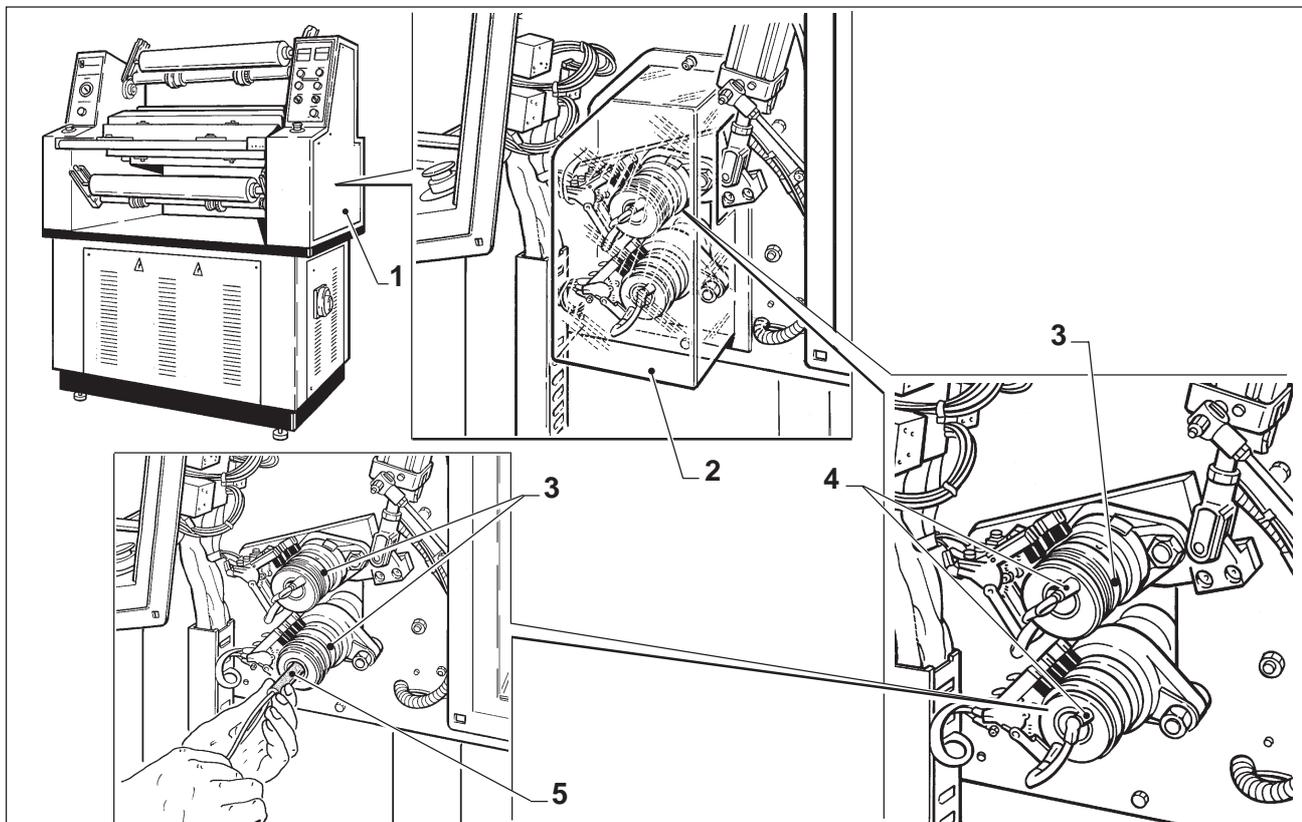

Fig. 13 - REPLACEMENT OF LAMINATION ROLLS HEATER
6.2 - REPLACEMENT OF ROLLS HEATERS (Fig. 13)
- a- Remove the right shoulder cover (1).
- b- Remove the transparent protection (2) of the rotating connector (3).
- c- Disconnect the electrical cables (5) by pulling out the fast-on (4).